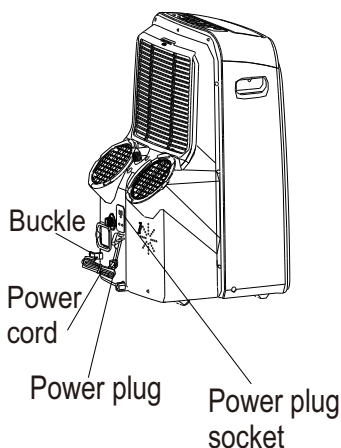

Fig.25
- Stop the appliance and unplug it, wrapped the cord and bundle it with the tape(Fig.25). Remove the batteries from the remote controller.